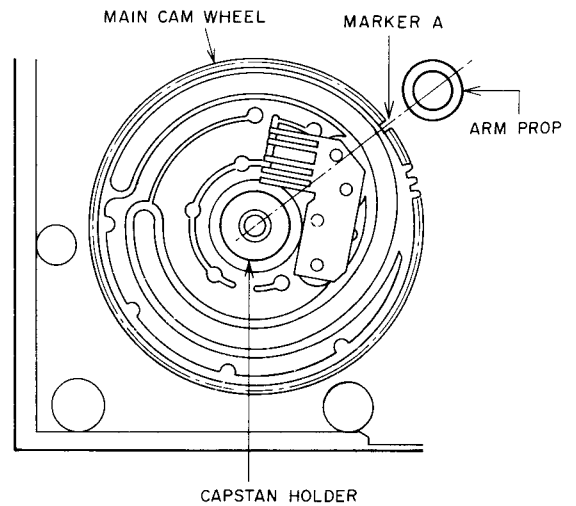
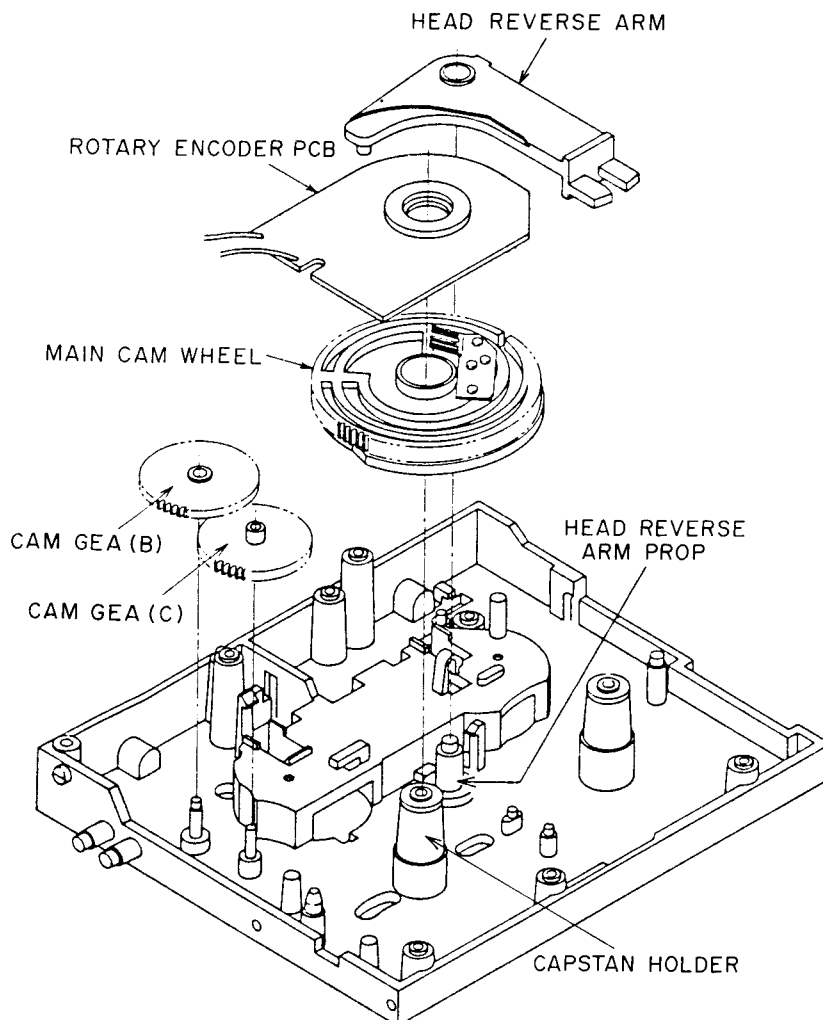

Fig. 4-2
Fig. 4-1
- 1) Set the MAIN CAM WHEEL to the CAPSTAN HOLDER as shown in Fig. 4-1 and Fig. 4-2. At this time, HEAD BLK is setting to STOP position.
- 3) Install ROTARY ENCODER to the MAIN CAM WHEEL, so that the pattern side of ROTARY ENCODER is faced to MAIN CAM WHEEL as shown Fig. 4-1.